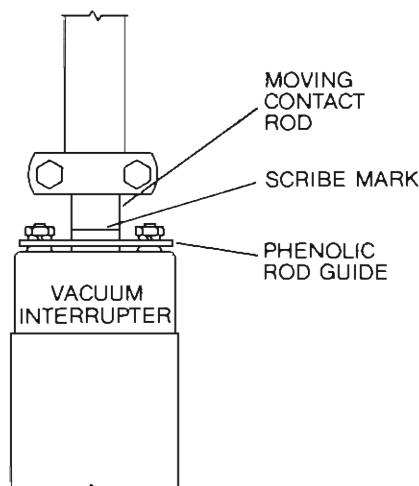

Figure 10.
- A. Locate the scribe mark on the moving contact rod at the top of each vacuum interrupter, Figure 10.